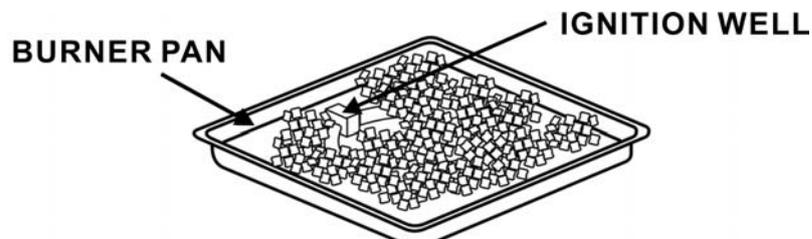

Figure 9
10. Pour ALL the provided media (fire ice or lava rock) into the burner pan. Burner MUST be completely covered to ensure the appliance functions properly and safely. Remove any lava rocks or fire ice on top of the ignition well. See Figure 9.